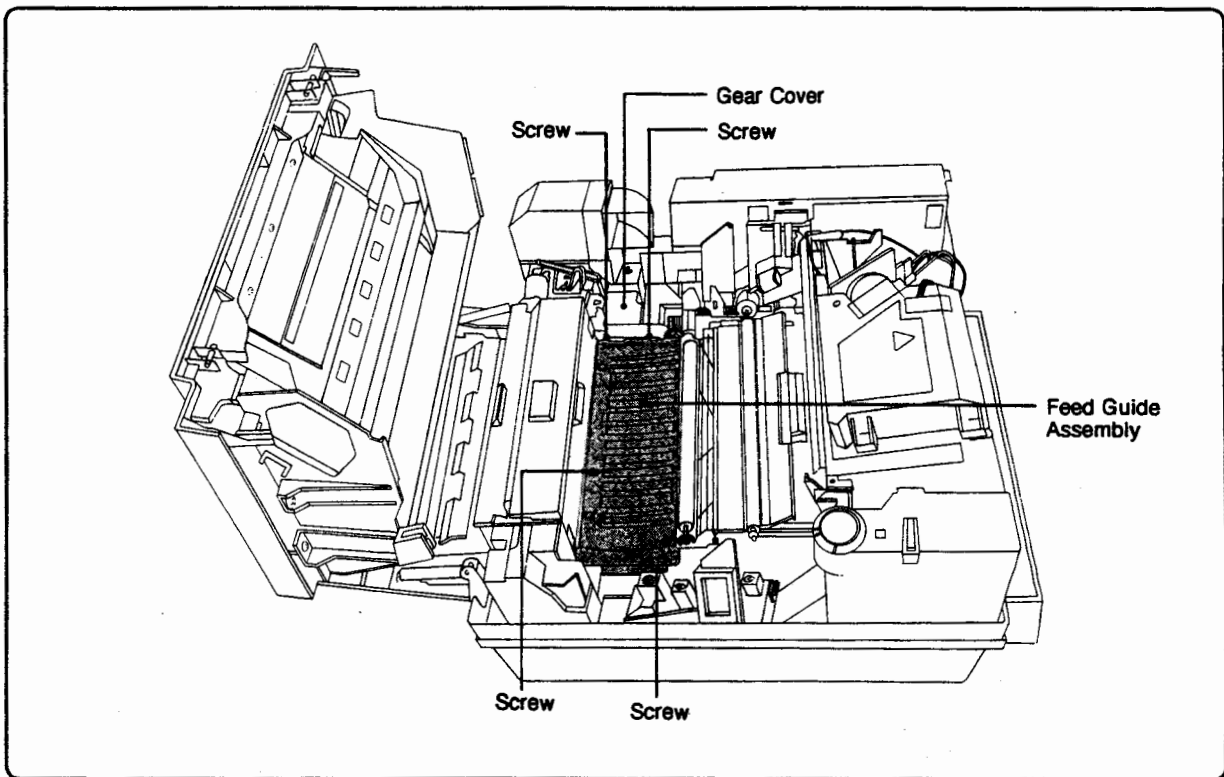

Figure 6-33. Feed Guide Assembly
4. Remove the screws (4) securing the Feed Guide Assembly (see Figure 6-33) and lift it out of the printer.